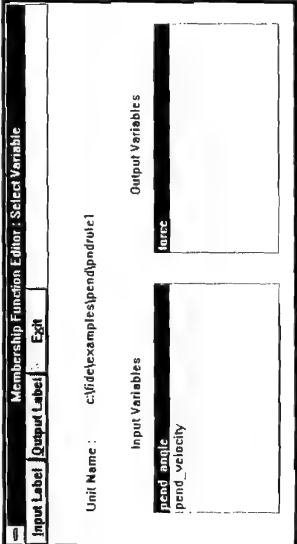

Figure 2-2 Fide/MF-Edit Select Variable Dialog Box
Choose the Edit command. A dialog box, shown in Figure 2-2, comes up asking you for the variable whose membership functions you wish to edit.
Press the Output Label button (Figure 2-2) to bring up a graphic display of the output labels associated with your fuzzy inference unit. There are two types of Output Label displays: (1) TVFI - not editable, and (2) Mamdani - editable.